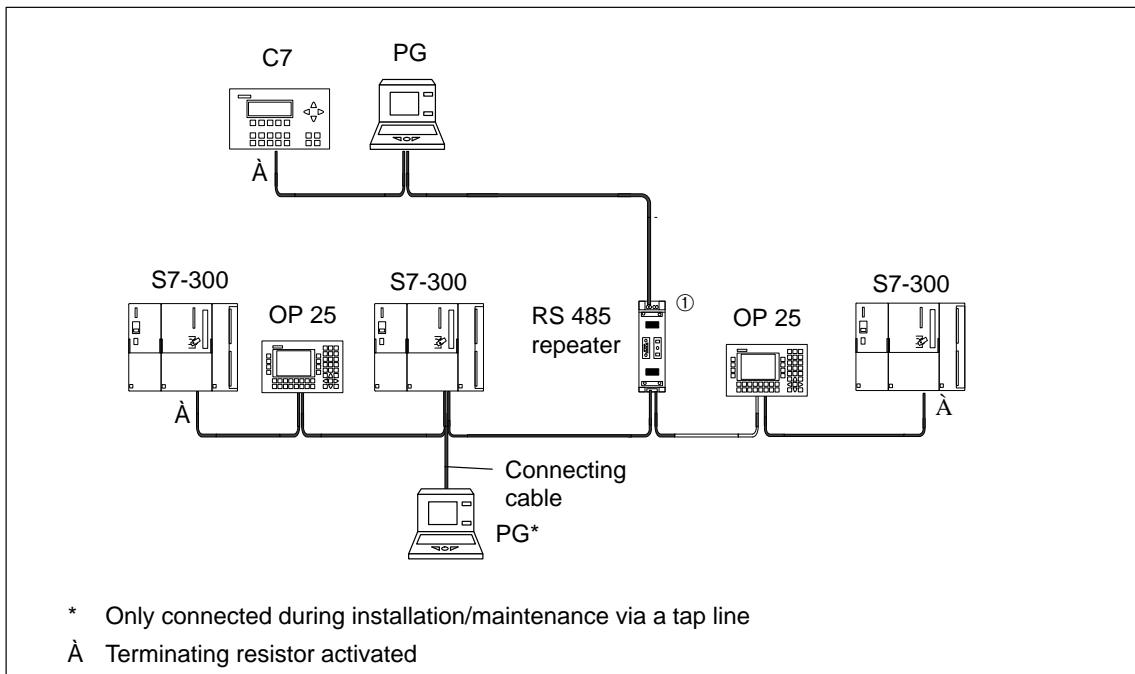

Figure 3-3 Activating Terminating Resistors in an MPI Network
- Connect up all the nodes on the MPI network as shown in Figure 3-3, in other words integrate the stationary programming devices and OPs directly in the MPI network.
Figure 3-3 shows a possible MPI configuration in which the terminating resistor must be activated.